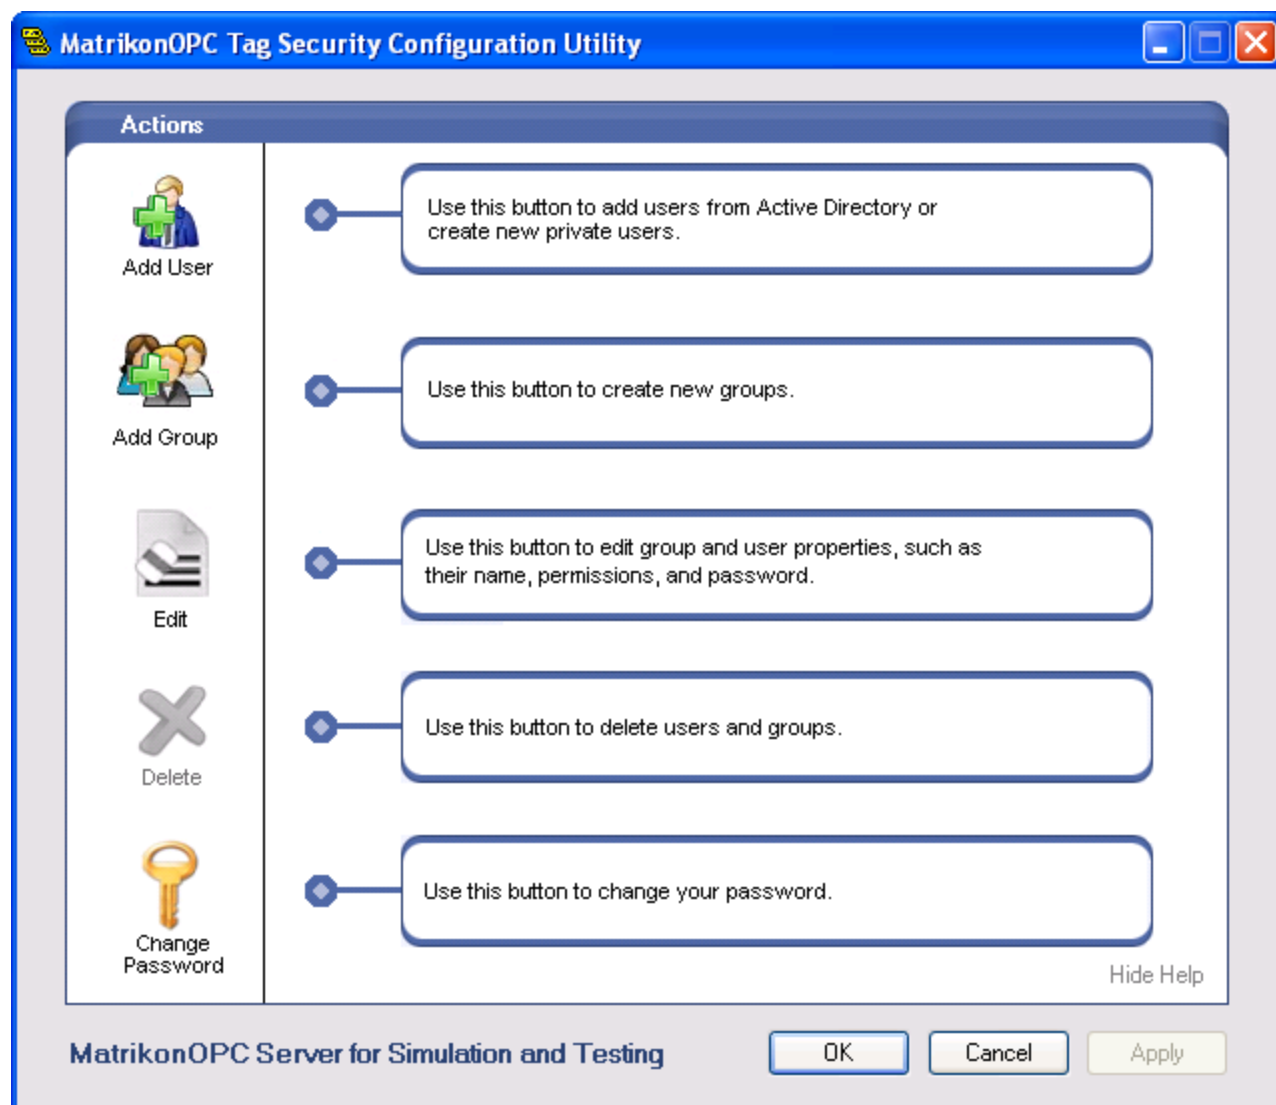

Figure 75 - MatrikonOPC Tag Security Configuration Utility Main Screen
4. The **MatrikonOPC Tag Security Configuration Utility** screen (Figure 75) appears.
The **MatrikonOPC Tag Security Configuration Utility** screen displays the name of the OPC server that is being configured for tag security. In Figure 75 above, the **Utility** screen shows that the **MatrikonOPC Server for Simulation and Testing** tag security is being configured.